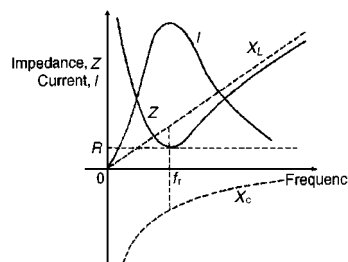

Figure 15.20
- (vi) Typical graphs of current I and impedance Z against frequency are shown in Fig. 15.20